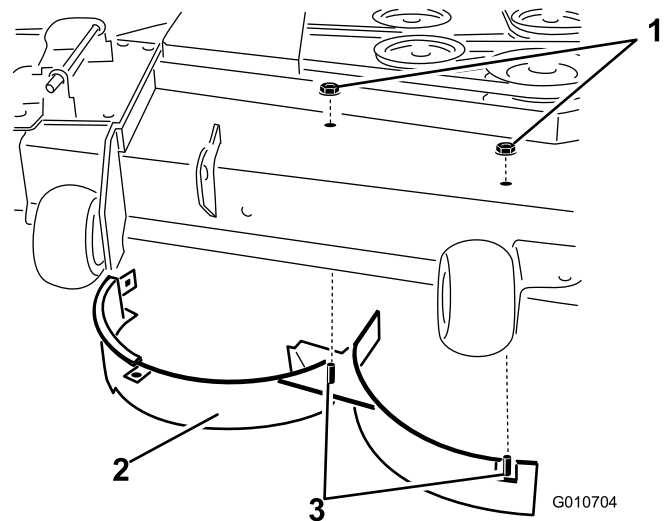

Figure 3
9. Install the right baffle to mower deck as shown in Figure 3. Use two lock nuts (5/16 inch) to secure the welded posts of the right baffle to the top of the mower deck at center and right of center positions. Hand tighten the fasteners.